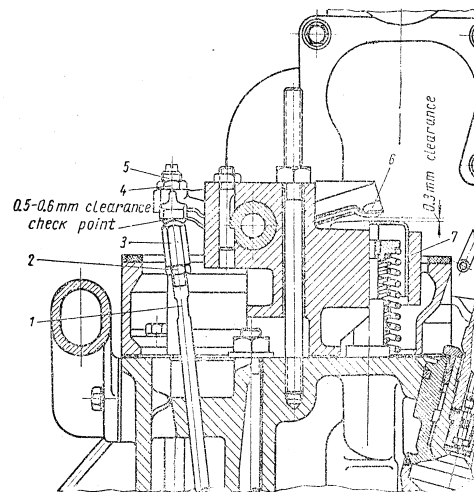

Fig. 28. Valve Clearance and Diesel Engine Decompressor Mechanism Adjustment:
**Diesel engine valve clearance.** The valve clearance should be adjusted when the engine has been warmed up. To adjust, crank the Diesel engine crankshaft to bring the cylinder piston of the valves being adjusted into top dead centre corresponding to the termination of the compression stroke, and set the decompressor lever in the operation (upper) position (see Fig. 28).
Adjustment of clearances between the rocker arms and the decompressor rod tips is accomplished with the decompressor lever in the upper "operation" position (see Fig. 28). The clearance checked by a clearance gauge should be from 0.5 to 0.6 mm.